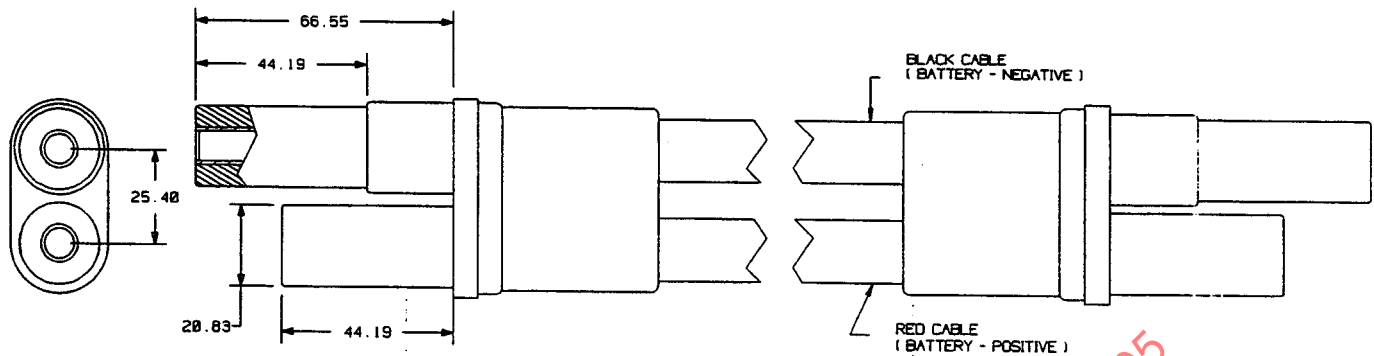

FIGURE 3—PLUG ASSEMBLY (MACHINE TO MACHINE)
- 3.2** The plug assembly shall contain two socket contacts as shown in Figures 3 and 4.
- 3.3** Two typical plug assembly configurations are shown in Figures 3 and 4.
- 3.3.1 The configuration shown in Figure 3 is used for auxiliary starting of one machine from another when both are equipped with a receptacle.